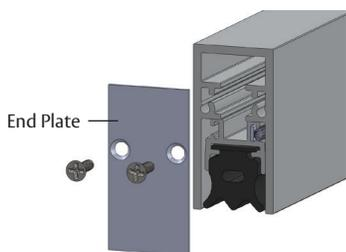

Figure 4 - Properly Installed End Plate
3. Install the end plate opposite the plunger, with the “This Side In” sticker towards the ADB, using the end plate screws as shown in Figure 4 (PEMKO logo should be visible).